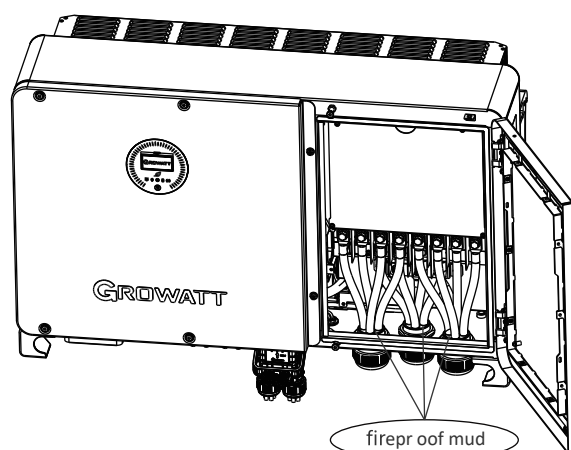

Fig 6.13 Applying fireproof mud
3. After connecting the cables, apply fireproof mud to the waterproof silicone mat at the inlet side. Lock the cover of the AC junction box after the fireproof mud is applied. See Fig 6.13 below.